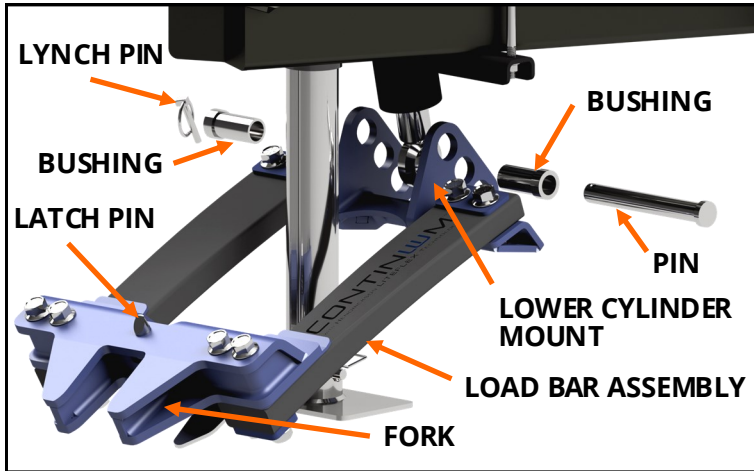

FIGURE G1: View of the load bar assembly under the trailer.
2. **Attach the load bars to the hydraulic cylinder.** Retrieve the load bar assembly. Remove the pin and bushings from the lower cylinder mount. Raise the trailer jack high enough that the load bar assembly can slide under it. Pin the hydraulic cylinder to the center hole in the lower cylinder mount using the removed pin and bushings, **see Figure G1**.